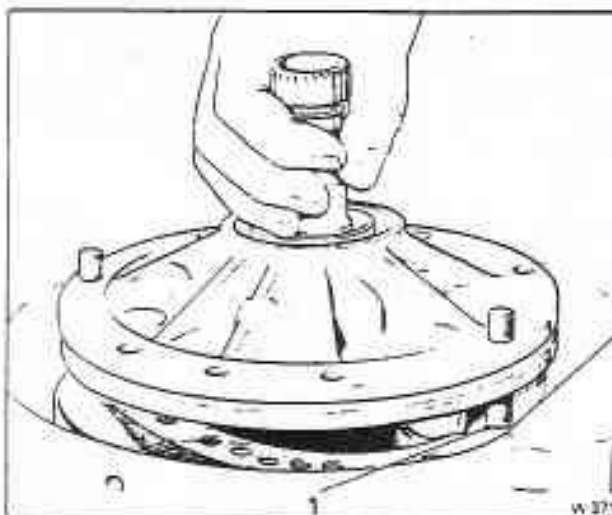

Fig. T16-8 Fitting the oil pump
3. Fit the pump assembly (see fig. T16-8). Ensure that new seals are fitted to the setscrews.